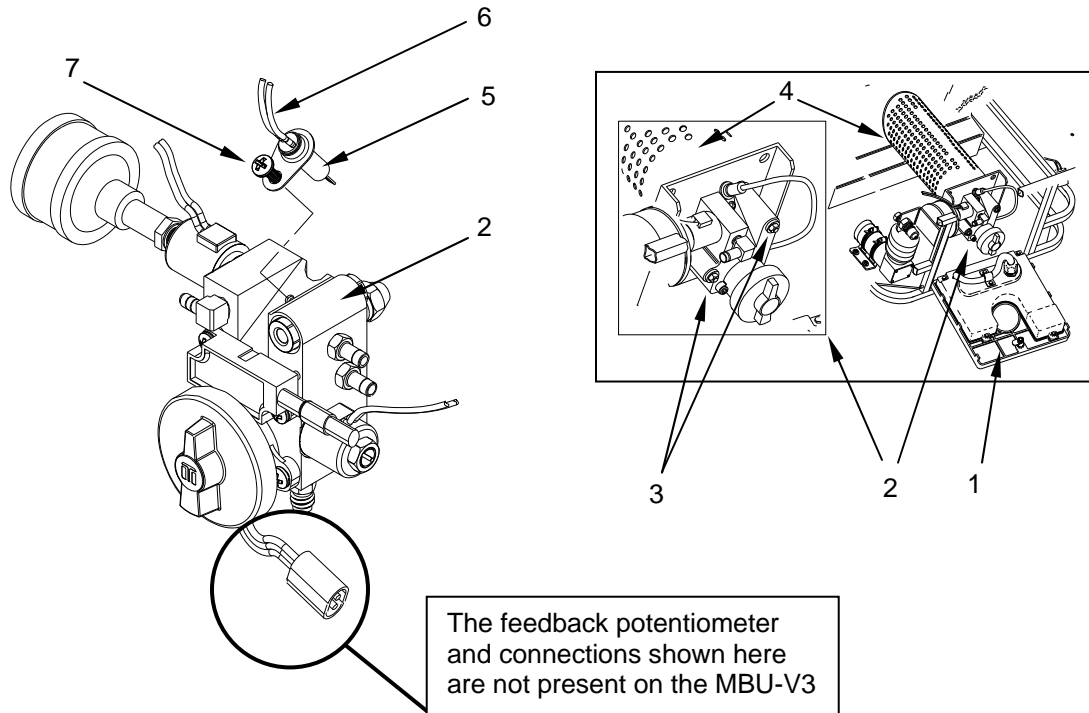

Figure 1. Replace the Igniter Assembly.
8. Install new igniter assembly (Figure 1, Item 5), and tighten the retainer screw (Figure 1, Item 7).
9. Connect the igniter power lead into light blue connector (Figure 1, Item 6). Route igniter cable as previously noted.
10. Move fuel delivery block (Figure 1, Item 2) into position and replace and tighten two hex nuts and washers (Figure 1, Item 3) while holding the block against the burner tube assembly (Figure 1, Item 4).
11. Close control panel (Figure 1, Item 1), and secure.